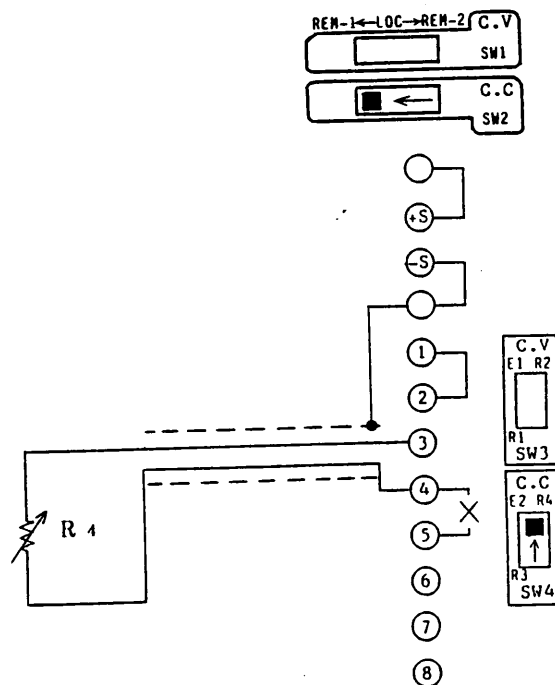

Figure 4-10
- (1) Turn off the POWER switch.
- (2) Throw the SW2 switch of the rear panel to REM-1.
- (3) Throw the SW4 switch of the rear panel to R4.
- (4) Disconnect the jumper from between terminals ④ and ⑤ of the rear terminal block.
- (5) Connect a control resistor R4 between terminals ③ and ④.
- (6) Regarding the switches for which no settings are specified in Figure 4-10, set them to the standard states as shown in Figure 2-19 (See Section 2.4.) or to appropriate states for respective modes (See Sections 4.1 through 4.11.).